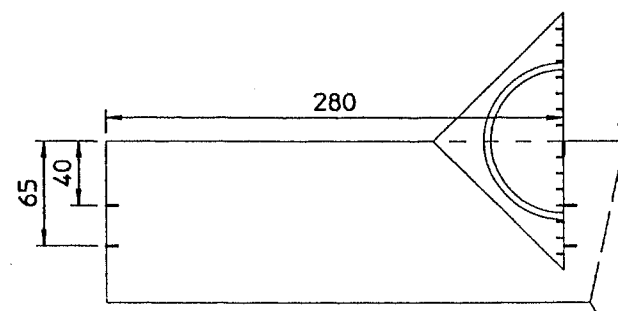

FIGURE 2
* Draw the shape of the wing on the 2,5 mm balsa sheet: measure 280 mm along the long side of the sheet and set a mark with the pencil. Set marks along the short side at 40 mm and at 65 mm. Position the drawing triangle on the sheet with the 0 at the 280 mm mark (see figure 2).